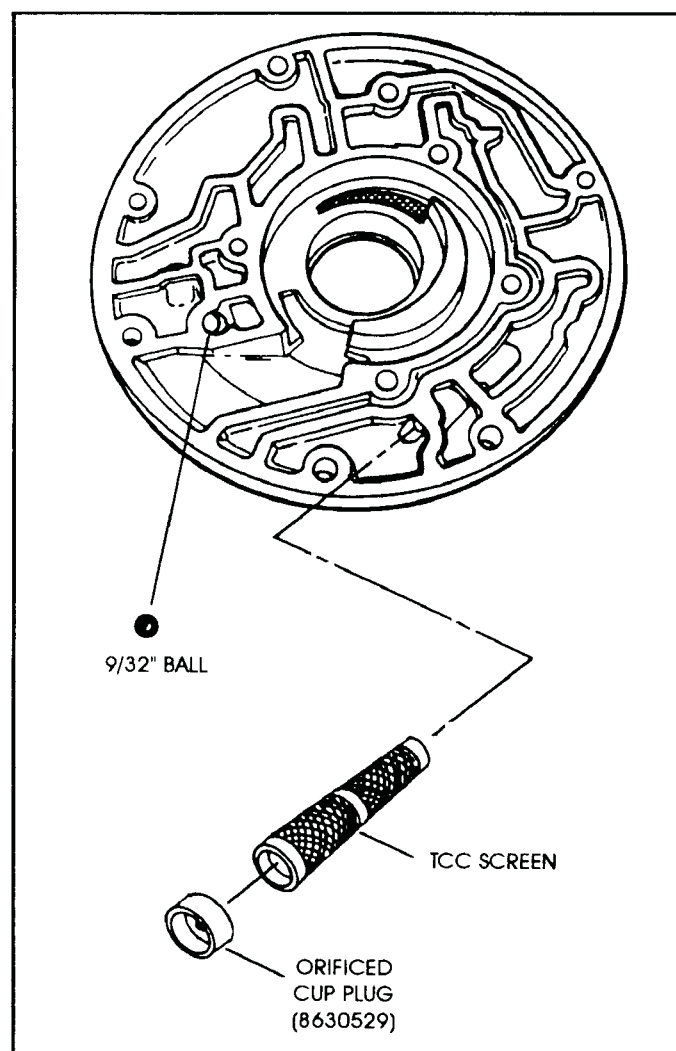

Figure 98
4. Install TCC screen and orifice cup plug into the pump body in location shown in Figure 98, if it was removed. This cup plug **MUST** be there and the screen **MUST** be free of debris, or you will have Lock-Up problems.
8. Install the 9/32" (.281") checkball into the pump body in the location shown in Figure 98.